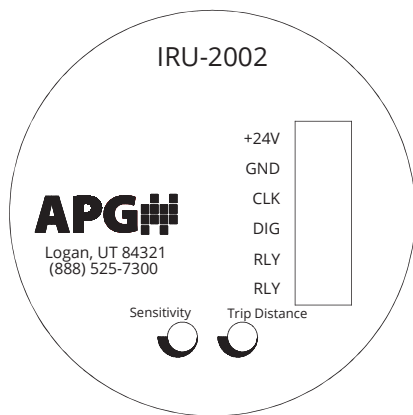

Figure 2.1
Potentiometers for setting or adjusting *Trip Distance* (IRU-2002 only) and *Sensitivity* (IRU-2002 and IRU-2003) are located inside the sensor housing along with terminal strips (See Figures 2.1 and 2.2). Both settings can also be controlled via the I2000SWR software (See Figure 3.3).
- For IRU-2002 and IRU-2003 sensors, sytem wiring must be connected to internal terminal strups prior to physical installation. (See Figures 2.1 and 2.2)
For IRU-2002 sensors, *Sensitivity/Trip Point Control* is used to select between potentiometer or software control of *Sensitivity* and *Relay Trip Point*. (See Figure 2.1)